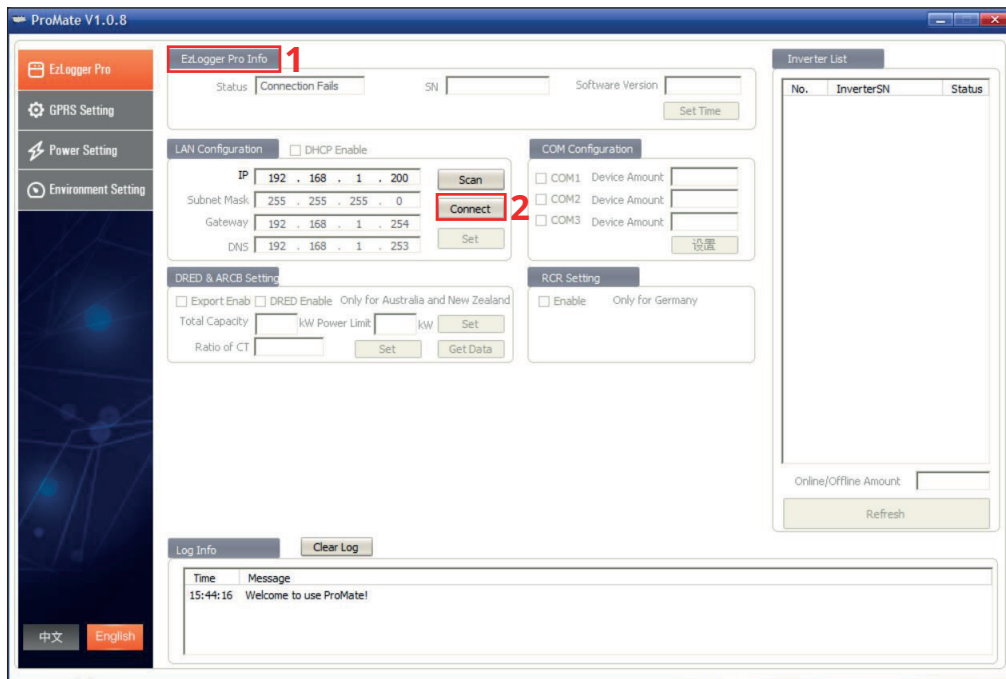

Figure 2: EzLogger Pro User Interface ProMate
**Step 1 and 2 :** Click the “Connect” button in the “LAN Configuration” section of the “EzLogger Pro” menu as shown in Figure 2.